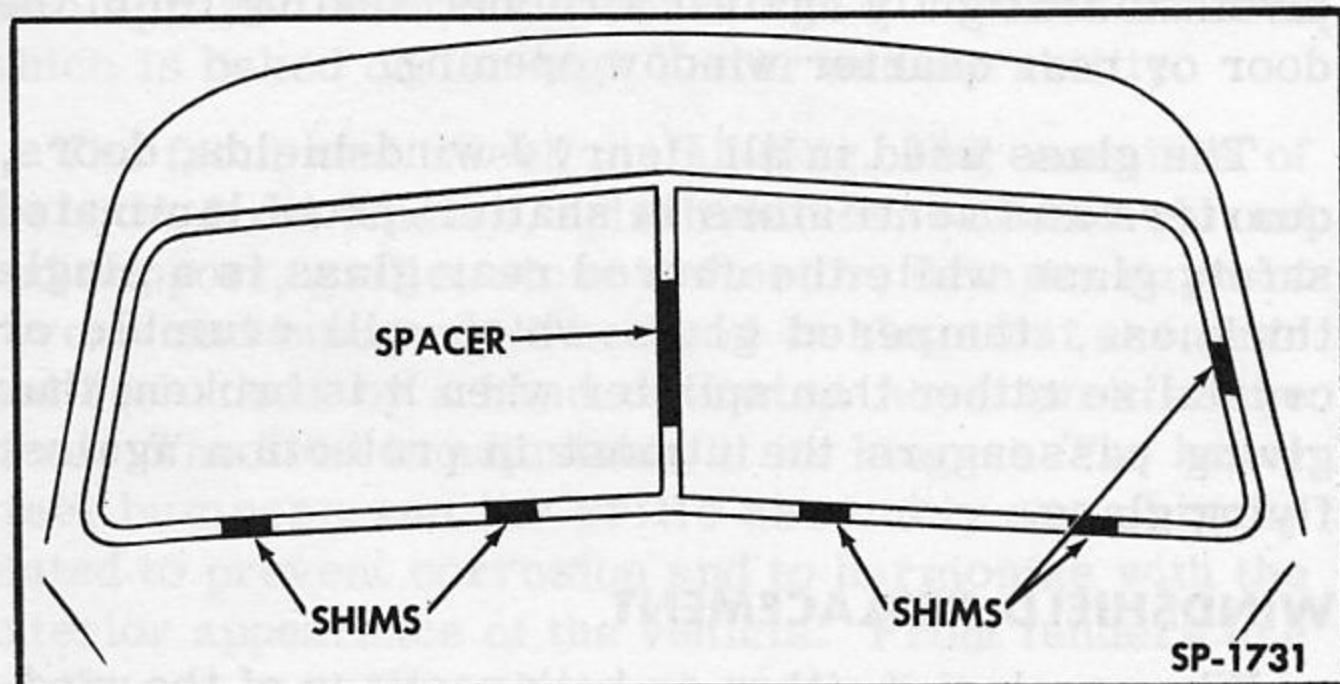

Fig. 228—Checking Windshield Opening
2. Place the two pieces of windshield glass in the windshield opening with the shims and spacer as shown in Fig. 228. Move windshield glasses to the left side